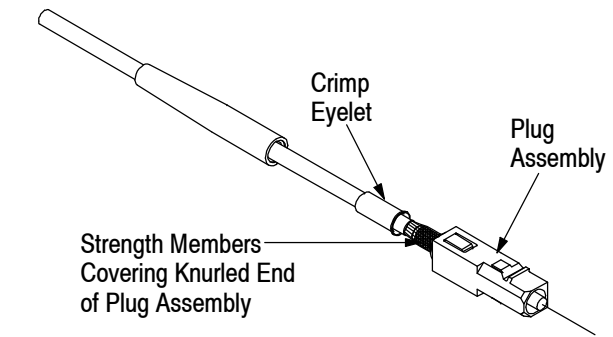

Figure 9
6. Slide the crimp eyelet away from the plug assembly so that the strength members are exposed. Gently push on the plug assembly so the gap between the knurled end of the plug assembly and the cable jacket is small enough to allow the strength members to completely cover the knurled end of the plug body. See Figure 9.